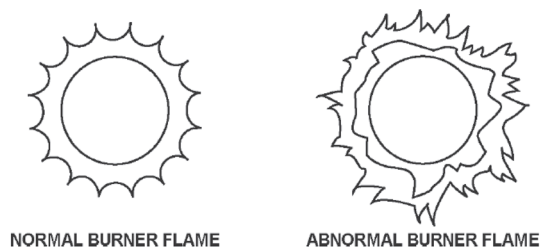

Figure 40. Normal and Abnormal Burner Flames
- Cause no excessive lifting of flame from burner ports. See *Figure 40*.